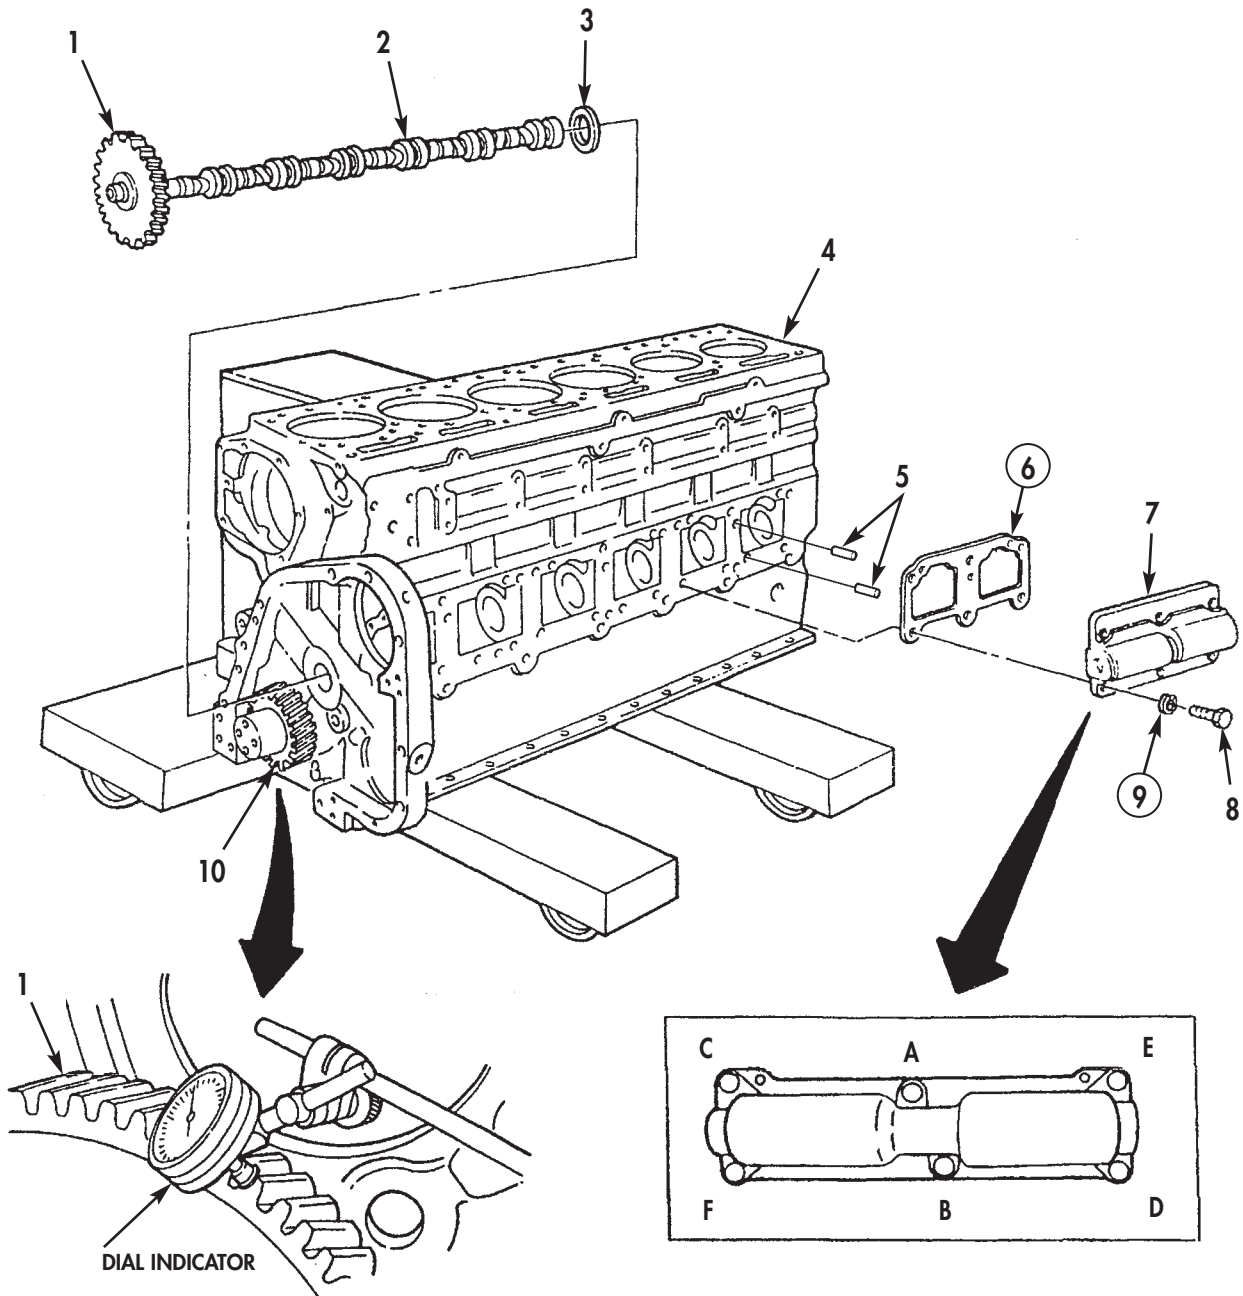

Figure 4. Cam Follower Installation.
11. Install cam follower housing (7) with six screws (8) and new lockwashers (9) on cylinder block (4). Tighten screws (8) 15 lb-ft (20 N•m) in tightening sequence shown in figure 4, and then tighten 30–35 lb-ft (41–48 N•m) in sequence shown in figure 4.